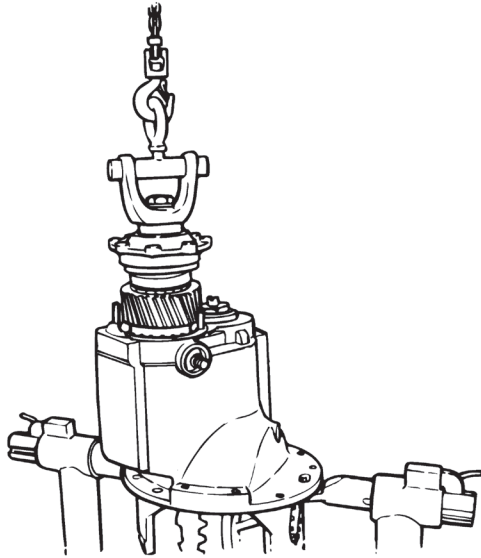

Figure 3.22
- A. Lift the input shaft assembly until the bearing cage is separated from the differential assembly. If necessary, tap on the bearing cage with a brass or plastic mallet to separate the cage of differential. Figure 3.22.